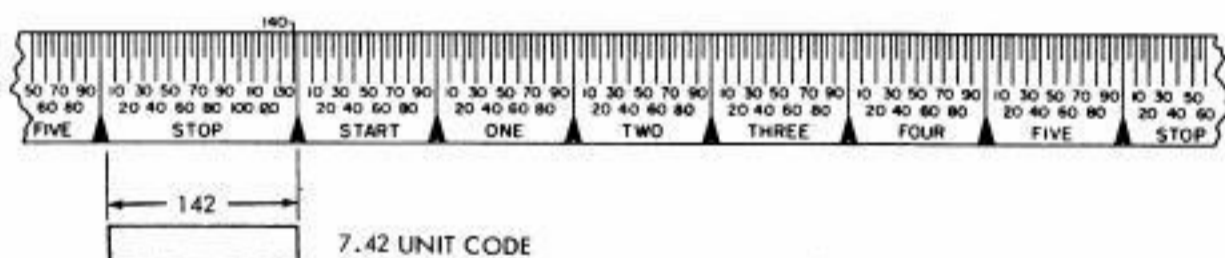

Fig. 1 — Length of Stop Pulse
(1) Insert Blank combination tape in sensing head, trip the distributor clutch, and orient the scale of the test set to align the 0 mark of its stop segment with the beginning of the stop pulse image. Length of the trace shall extend from 0 to 142 ± 4 divisions on the test-set scale. (See Fig. 1.)
(1) Insert Blank combination tape in the fixed sensing head. Trip the fixed reader sensing shaft clutch (on some units, the sensing shaft clutch may be tripped electrically via operation of the pivoted head distributor shaft). Orient the scale of the test set to align the 0 mark of its stop segment with the beginning of the stop pulse image. Length of the trace shall extend from 0 to 142 ± 4 divisions on the test-set scale. (See Fig. 1.)
(2) Check the No. 1, No. 3, and No. 5 contacts in accordance with the instructions given for the No. 1, No. 3, and No. 5 distributor contacts of the pivoted sensing head.